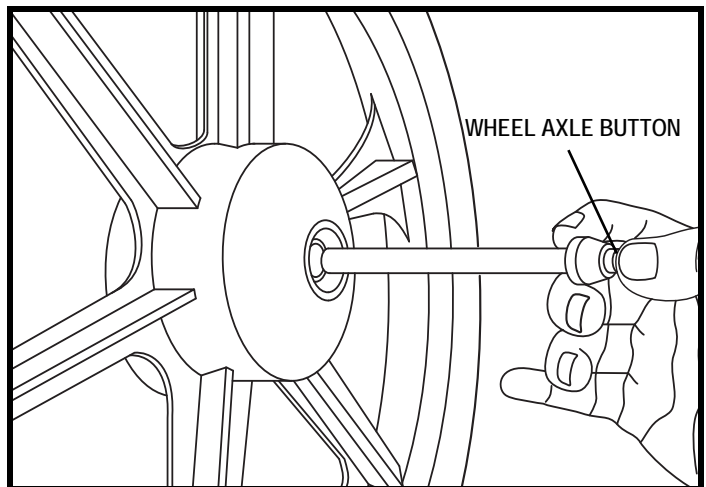

Figure 21. Kids ROCK 2 and ROCK 3 Rear Wheel
5. Make sure that the axle is fully engaged by verifying that the button on the top of the axle pops out. **See figure 21.**